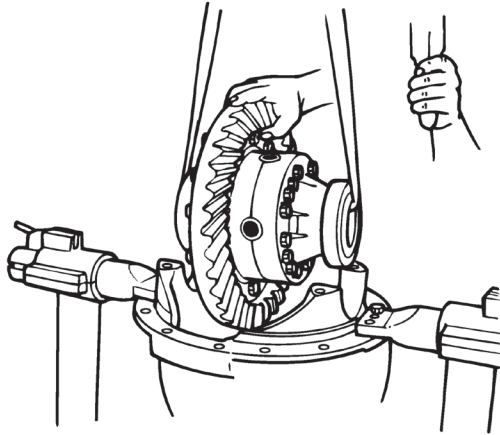

Figure 3.45
- Use an appropriate lifting device to remove the main differential case and ring gear assembly from the cage of differential. Figure 3.45.